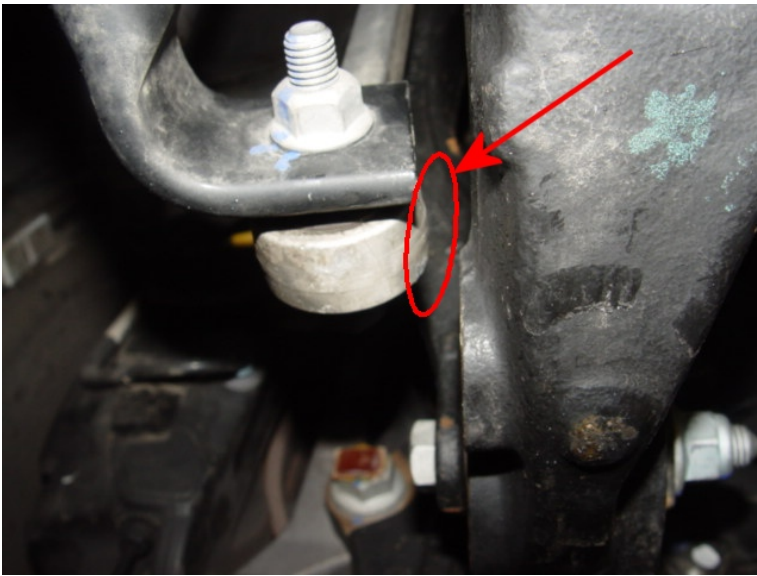

Figure 3
2. Check for witness marks on the lower knuckle of the anti-roll bar link (Figure 3) and repeat on the opposite side